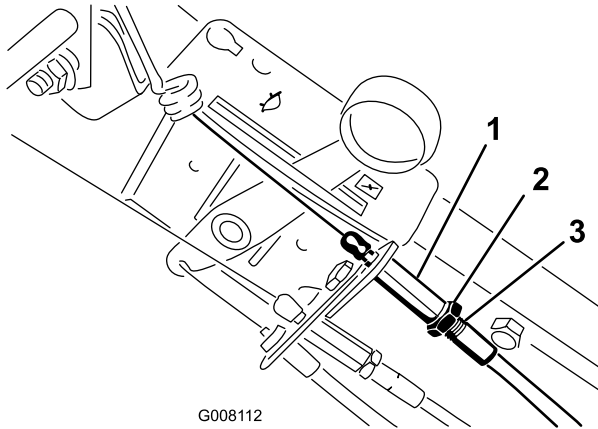

Figure 28
4. Reset the cable adjuster on the handle so that 1/4 inch (6 mm) of the threads show, then tighten the nut (Figure 28).